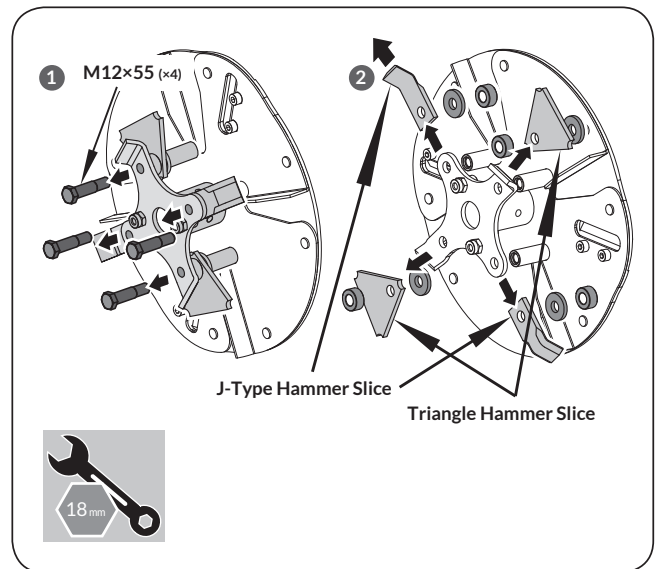

Figure 14
7. If the hammer slicers are damaged, remove the four M12x55 bolts that hold the J-type hammer slicer and triangle hammer slicer, and replace. (See **Figure 14**)